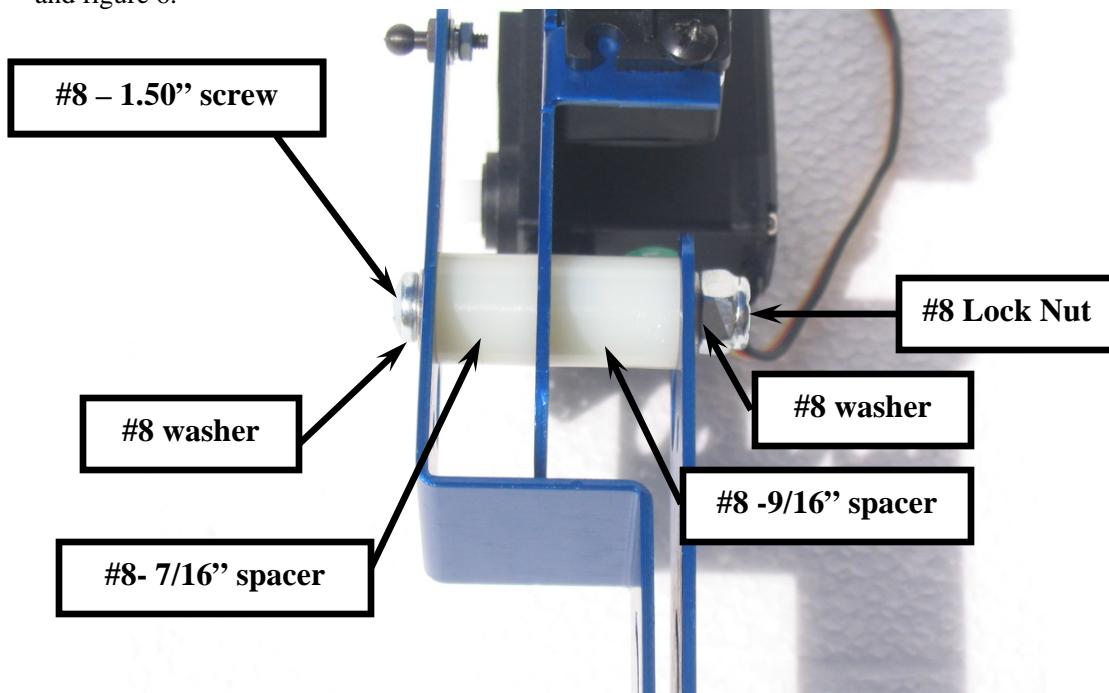
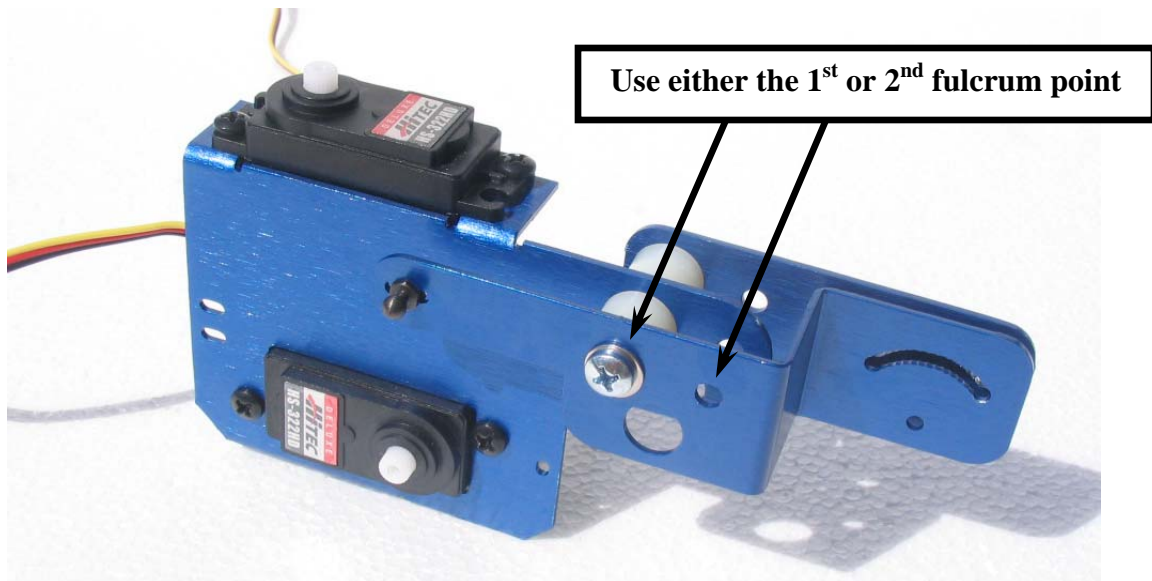

Figure 5
Figure 6
- Using (1) #8- 1.50" screw, (2) washers, (1) lock nut, (1) 7/16" nylon spacer and (1) 9/16" nylon spacer, install the leg actuator and leg actuator support to the servo holder as shown in figure 5 and figure 6.
6. Use the close-up diagram in Figure 6 for the complete assembly sequence. Tighten the #8 screw just enough so that the assembly will remain upright as shown in figure 6. This assembly will be loosened later in the construction process to ensure proper leg movement.